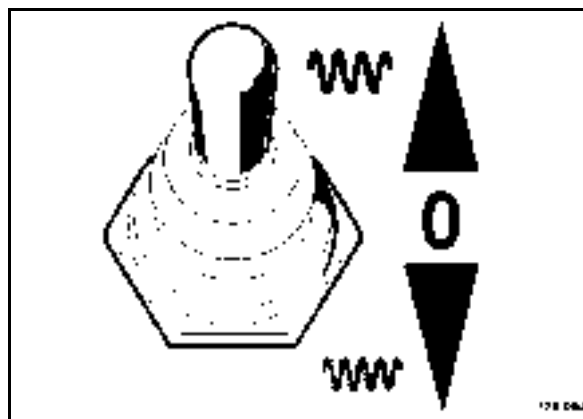

Fig. 35
- Set the vibration toggle switch (Fig. 35) to position "0".